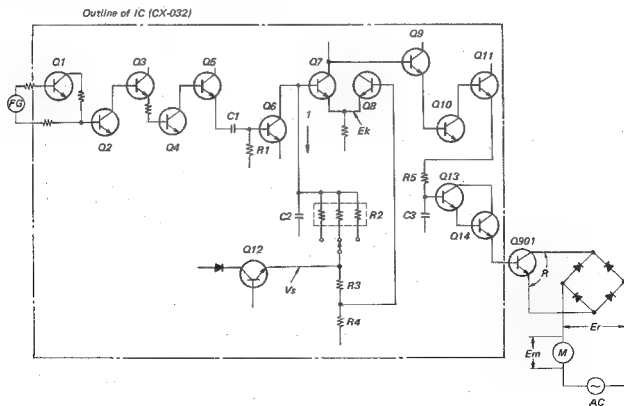
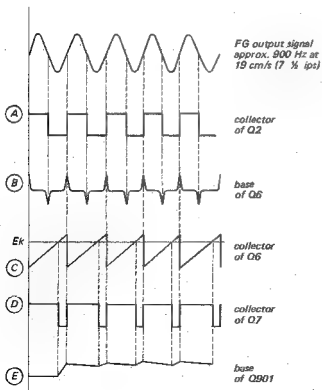

Fig. 9. Servo amplifier outline
Fig. 10. Waveform at each point
Servo amplifier which changes impedance  $R$  operates as follows: See Fig. 9 and Fig. 10.
- 1) Sine wave signal generated by frequency generator FG is transferred to bases of Q1 and Q2. Since base bias voltages of Q1 and Q2 are set to saturation region, sine wave signal is waveshaped to square wave signal shown by (A) in Fig. 10.
- 2) Square wave signal from Q2 is amplified by Q3, Q4 and Q5. It is transferred to differentiating circuit comprising C1 and R1 and is waveshaped to pulse shown by (B) in Fig. 10. Then it is transferred to base of Q6.
When pulse shown by (B) in Fig. 10 is transferred to base of Q6, Q6 repeats ON and OFF states. C2 discharges while Q6 makes current flow as shown by the arrow (1) in Fig. 9. Thus sawtooth wave signal shown by (C) in Fig. 10 is obtained at collector of Q6.
- 5) The sawtooth wave signal is supplied to base of Q7. Since the emitter voltage  $E_k$  is kept constant, Q7 turns ON only when the peak value of sawtooth wave signal is greater than  $E_k$ . When Q7 turns ON, the negative pulse shown by (D) in Fig. 10, appears at collector of Q7.
- 6) This pulse is amplified by Q9, Q10 and Q11, and its polarity is inverted. The positive pulse is transferred to the integrator comprising R5 and C3, and is waveshaped as shown by (E) in Fig. 10. After being amplified by Q13 and Q14, it is transferred to base of Q901. And this base voltage changes impedance between collector and emitter of Q901 and controls motor speed.